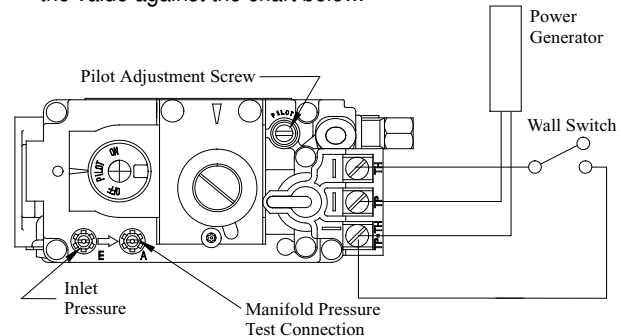

Figure 7. Sit Nova 820 gas valve.
17. To check the Inlet and Manifold gas pressures, use a Water Column Pressure Gauge with 5/16" dia. tubing. Make sure the gas shut-off valve is closed, then attach the gauge to the Manifold Pressure Test Connection by loosening the screw shown in Figure 7. The tubing must be tight in the connection to prevent gas leaks. Measure the Manifold Pressure and compare the value against the chart below.
21. Locate the Pilot Adjustment Screw. (See figure 7)